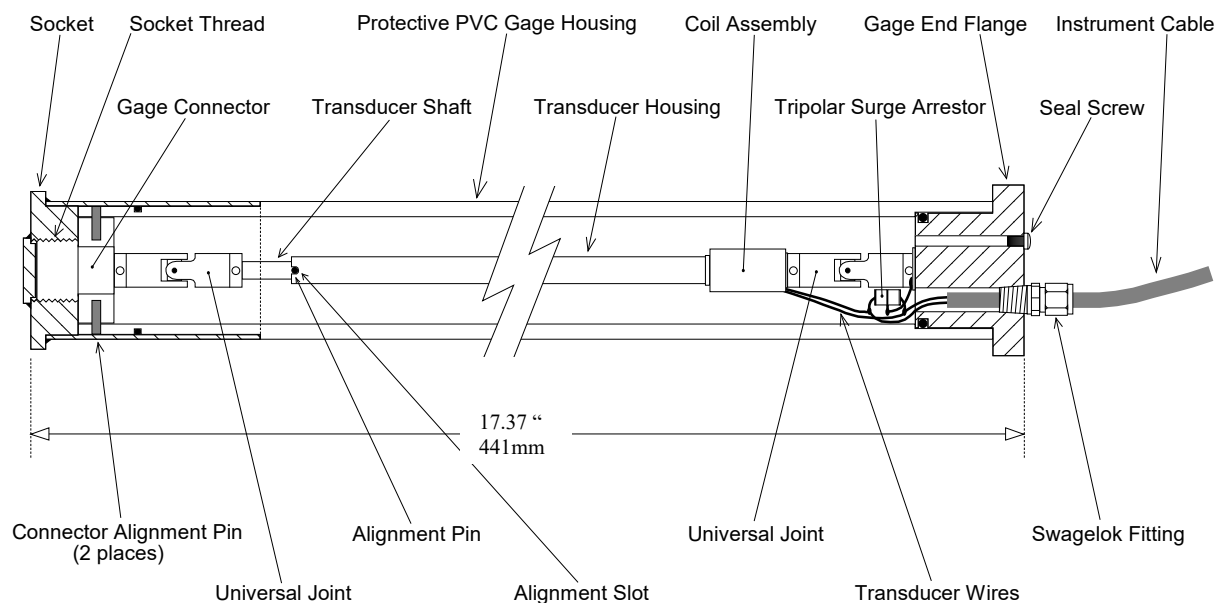

Figure 1 - Model 4400 Vibrating Wire Embedment Jointmeter
- 3) Remove the seal screw from the cable end flange. (Refer to Figure 1 in Section 1.) This allows air to enter the inside of the jointmeter while it is being adjusted.